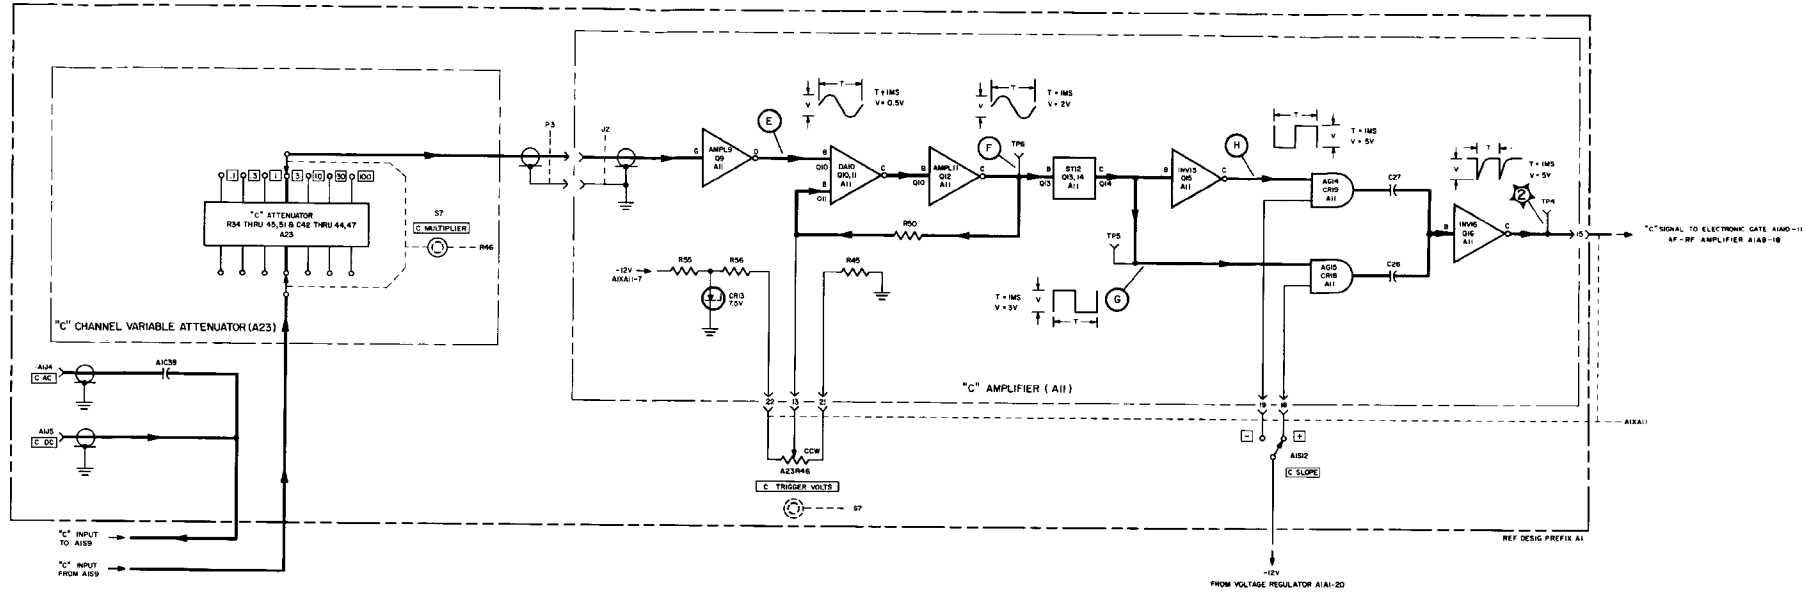

Figure 4-9. "C" Amplifier, Functional and Servicing Block Diagram
a. C AMPLIFIER FUNCTIONAL DESCRIPTION. -The C amplifier consists of the channel C variable attenuator and trigger level control A1A23, and part of af-rf amplifier A1A11. The channel C variable attenuator is mounted on the front-panel C MULTIPLIER switch; the af-rf amplifier is constructed on one-half of printed circuit board assembly A1 A11. This functional section receives the C input signal from the C AC and C DC input connectors, attenuates, amplifies, and shapes this signal for use throughout the counter. The C amplifier functional and servicing block diagram is shown in figure 4-9.
c. USEFUL ILLUSTRATIONS. - Illustrations useful in maintaining this functional section are: figures 4-9, 5-8, 5-9, 5-12, 5-46, and 5-65.
1 (cont)	Apply a 10 volt rms, 1000-cps sine-wave signal to the C AC connector. Observe the waveform at test point E and compare with that shown in figure 4-9.